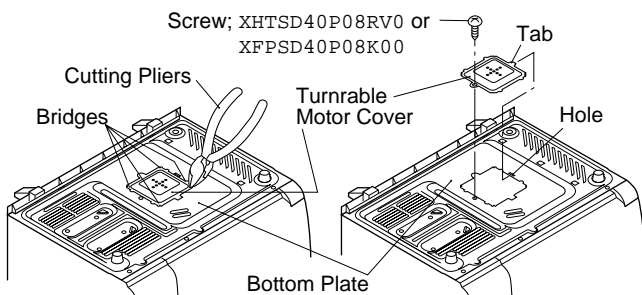
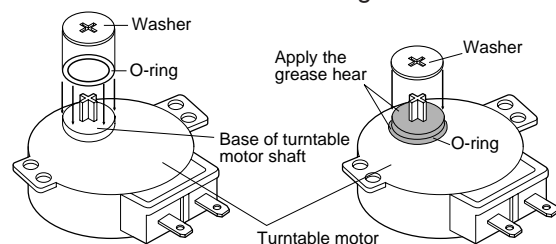

Figure C-3. Turntable Motor Cover
Figure C-4. Washer and O-ring Installation and Grease Applying.
4. Cut the four (4) bridges holding the turntable motor cover to the bottom plate with the cutting pliers as shown in Figure C-3.
7. Remove the single (1) screw holding the turntable motor to the oven cavity.
3. Apply the grease (Shinetsu silicone grease G-420 of Sinetsu Chemical Co. Ltd. or Toray Silicone grease SH-14 of Toray Silicone Co., Ltd.) to the O-ring and the base of the turntable motor shaft as shown in Figure C-4.
4. Re-install the turntable motor with the O-ring and washer to the oven cavity with the single (1) screw.
6. Insert the tab of the turntable motor cover into the hole of the bottom plate as shown in Figure C-3.
7. Re-install the turntable motor cover to the bottom plate with one (1) screw XHTSD40P08RV0 or XFPSD40P08K00 as shown in Figure C-3.